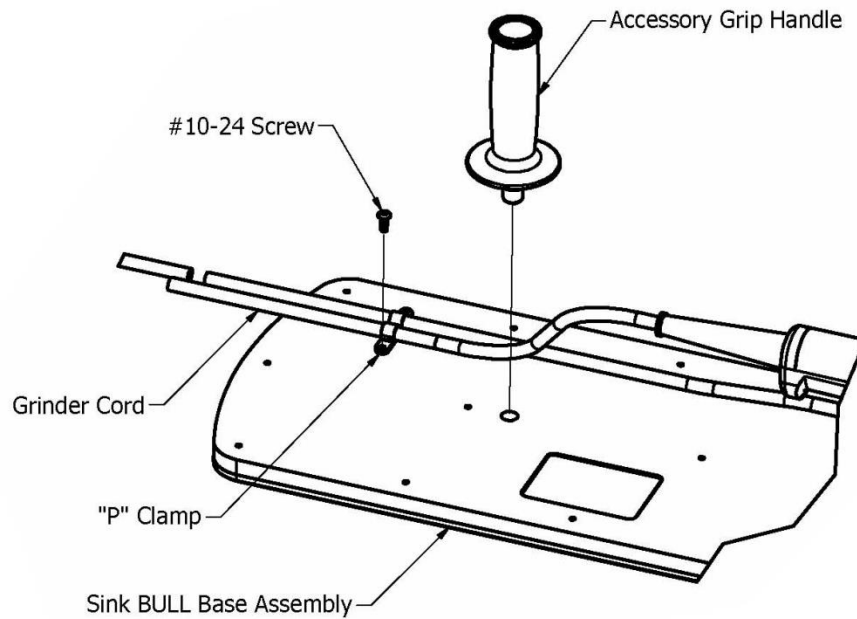

FIGURE 6 – Final Assembly
15. On the Sink BULL™ base assembly, on the opposite end from the height adjustment handle, there is an unused "P" clamp next to the red hose. Using a 1/8" Allen or hex wrench, remove quantity (1) #10-24 screw attaching the "P" clamp. Place the clamp around the grinder cord and reinstall the screw (see Figure 6).
16. Install the accessory grip handle that came with the Makita grinder into the threaded hole provided (see Figure 6).